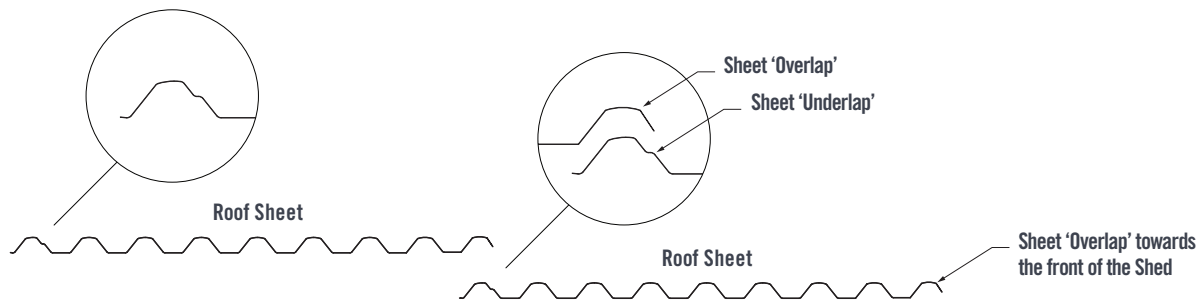
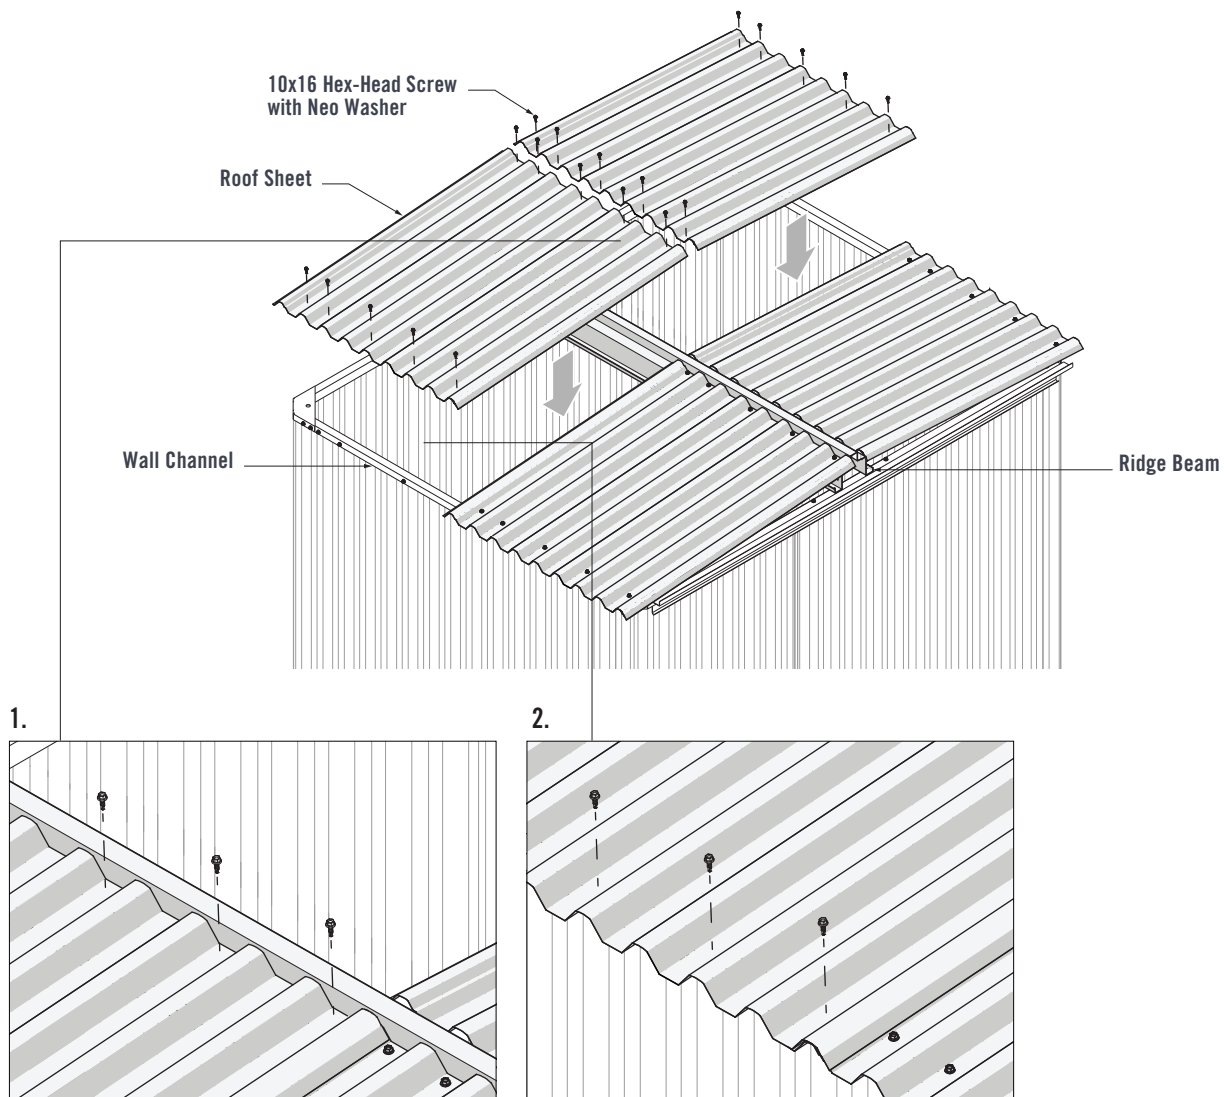

FIGURE 7.3
FIGURE 7.5
Refer to the sheet layout below when installing Roof Sheets (Figure 7.3).
Refer to Figure 7.3 for Sheet layout. Lay the next Roof Sheet onto the Ridge Beam and Wall channel, ensuring the overlap end of the Roof Sheet is facing the front of the shed (Figure 7.5).
1. Ensure the Roof Sheet is hard against the step of the Ridge Beam. Fasten five 10x16 Hex-Head Screws with Neo Washers through the pans of the Roof Sheet and into the Ridge Beam (Figure 7.5).
2. Fasten five 10x16 Hex-Head Screws with Neo Washers through the pans of the Roof Sheet and into the Wall Channel (Figure 7.5).